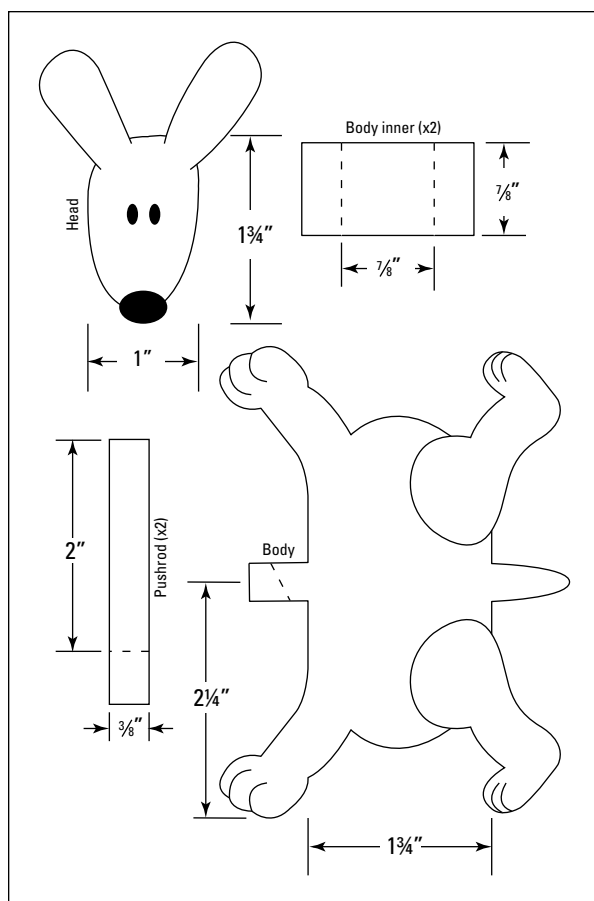

Figure 10-19:
9. Copy the dog templates from Figure 10-19 onto thin card and cut out the parts.